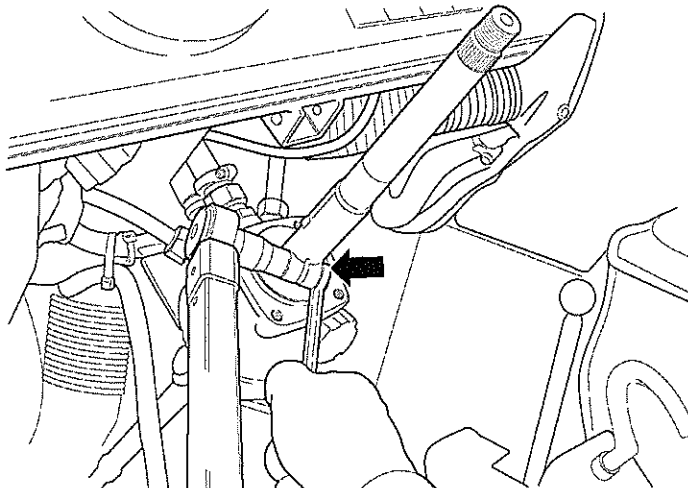

Fig 5 Loosening steering spindle clamp
- 12.2 Loosen clamp and pull off steering spindle (see Fig 5).